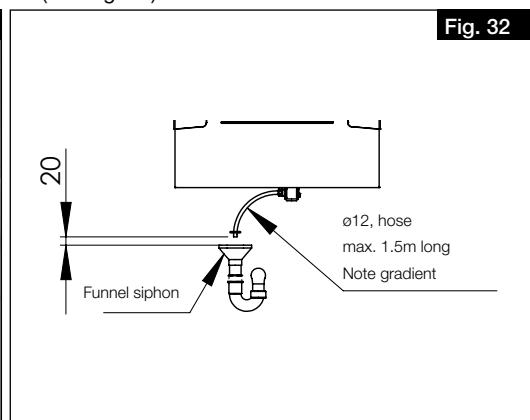

Fig. 32
- > The condensate hose must end 20 mm above the open drain or possible water level (see Fig. 32).
- > The condensate hose from the ball siphon must have a downward gradient, openly dripping into a funnel siphon and must not be discharged into a closed system (see Fig. 32).
> The condensate hose must end 20 mm above the open drain or possible water level (see Fig. 32).